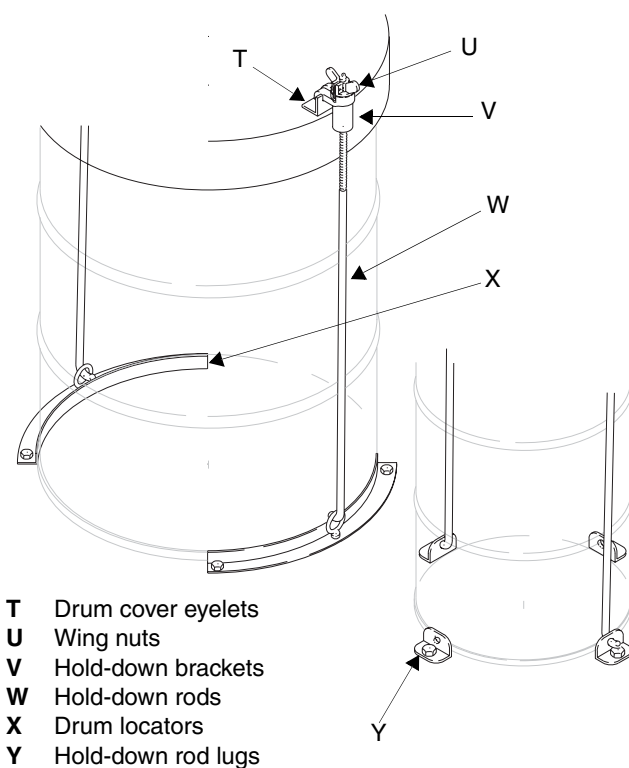

FIG. 8
2. Place the hold-down lugs (Y) or drum locators (X) around the drum base and bolt directly to the truck bet or mounting platform. See FIG. 8.
4. Align the drum cover eyelets (T) with the hold-down rods (W), install the cover brackets (V) and wing nuts (U) and tighten securely. See FIG. 8.
4. Align the drum cover eyelets (T) with the hold-down rods (W), install the hold-down brackets (V) and wing nuts (U) and tighten securely. See FIG. 8.